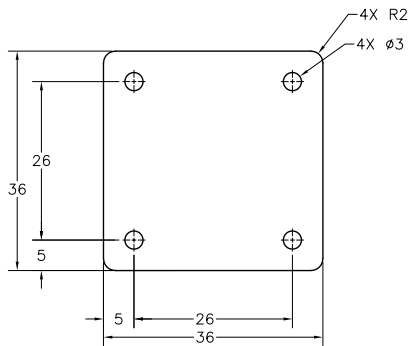

Figure 3-128 Sketch for the area to Press/Pull
12. Choose the **Top** option from the **Views** panel in the **View** tab and draw the sketch with the dimensions shown in Figure 3-128.